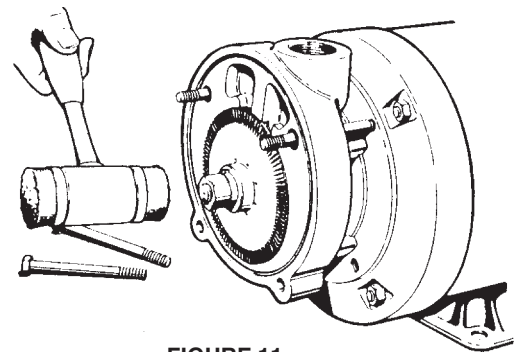

FIGURE 11
4. Remove the impeller (#11). Refer to Figure 11. The impeller is a slip fit and, under normal conditions, can be removed by gently tapping on the end of the shaft sleeve with a mallet. Leave the impeller key (#23) in place. Striking the sleeve too hard could damage the seat or rotating element.